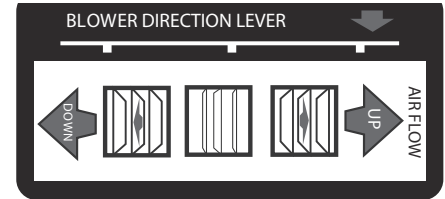

Figure 5
2. Move the lever to the left to direct airflow downward or to the right to direct airflow upward. See Figure 5.